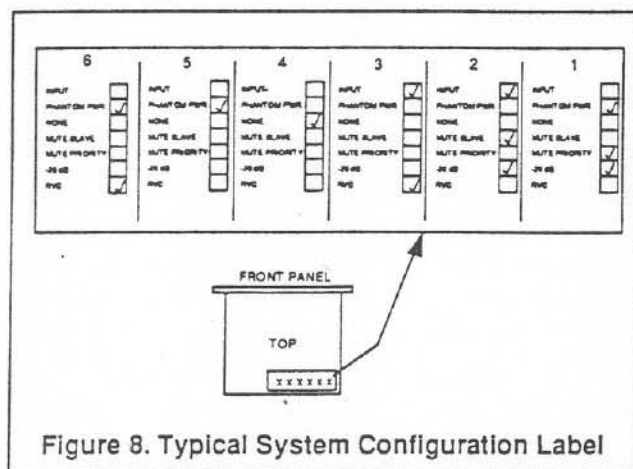

Figure 8. Typical System Configuration Label
- Included in this manual is a "System Configuration" label. Use a permanent marker to check off the module type, configuration, and options (if any) for future reference. Affix the label to the unit as shown in Figure 8.